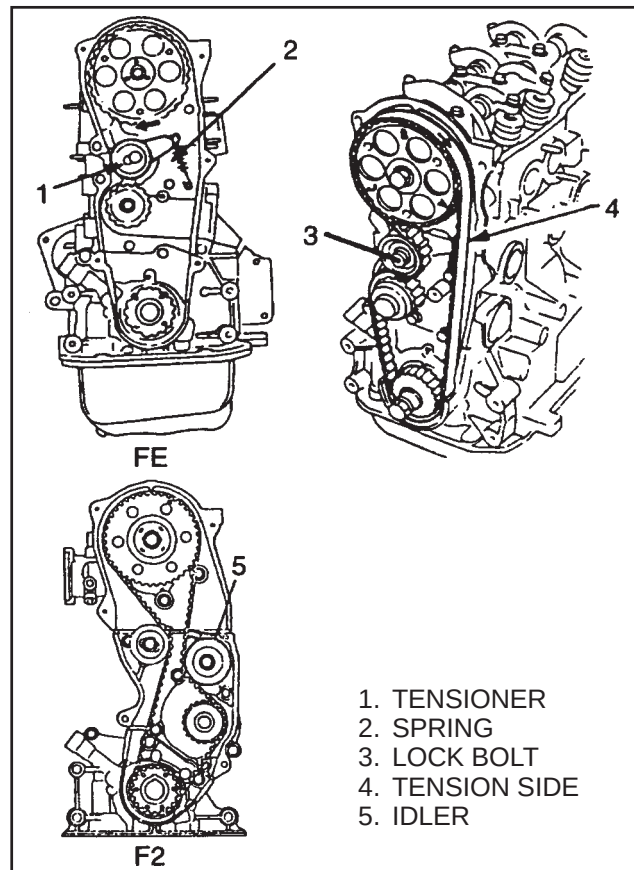

FIGURE 25. INSTALL THE TIMING BELT
14. See FIGURE 25. Loosen the lock bolt and apply spring tension on the belt. Rotate the crankshaft pulley two complete turns clockwise and check the timing marks. If the timing marks are correct, tighten the lock bolt for the tensioner to 20 to 34 N.m (200 to 350 kgf·cm) for FE, to 37 to 52 N.m (380 to 530 kgf·cm) for F2 engine. Check the movement on the tension side of the timing belt. When the tension is correct the belt will move 12 to 14 mm for FE, 9 to 10 mm for F2 engine with 98 N (10 kgf) of force.